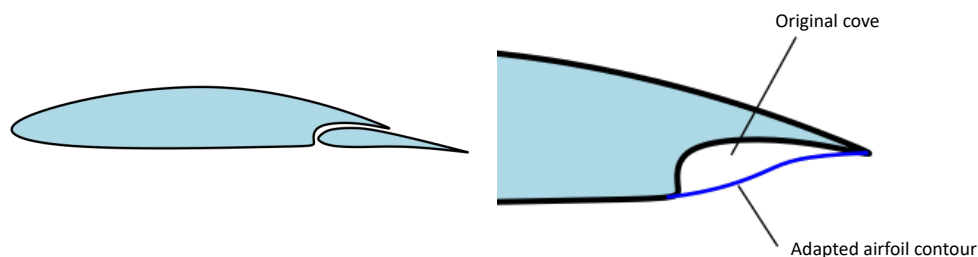

Fig. 1 Adaptation of the cove area to prevent computational problems.
5. Use this model to construct a “like-wise” high lift system that consists of a main element and a separate flap based on 2 airfoils in close proximity. This means that the cove area is smoothed (see fig. 1) to enable calculations with the selected low fidelity code that will be used below. This high-lift system is to be used in subsequent analyses.